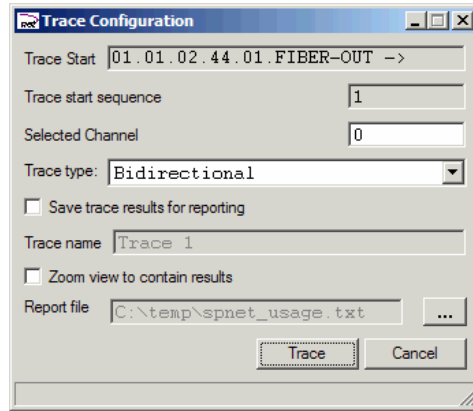

Figure 235 – Trace Configuration Panel
6. Fill in the fields of the Trace Configuration panel as shown in Figure 235, below.